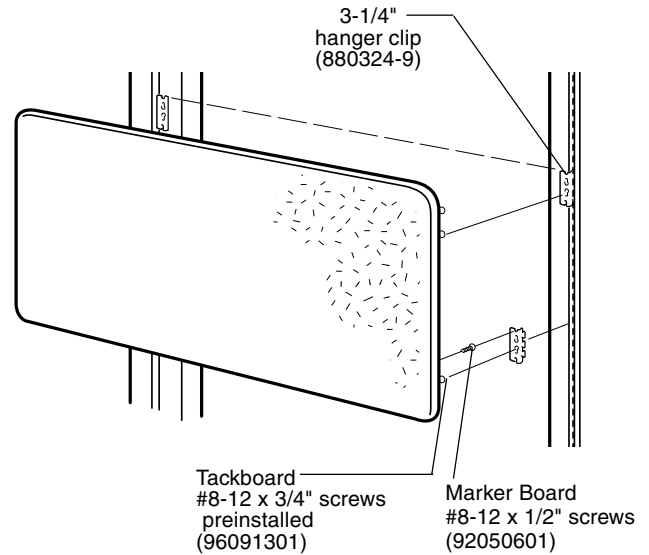

Figure 1
1. Lay boards face down. Install four (4) #8-12 phillips screws into pilot holes, leaving a 3/16" (4.6) gap between the board and the screw head bottom. Tackboards have the screws preinstalled.
2. At designated mounting location, install four 3-1/4" (83) hanger clips on left and right side of frame. Make sure clips are firmly seated.
3. Align screws with the notch in the top of the hanger clip and slide board down over screws to engage. (Figure 1)